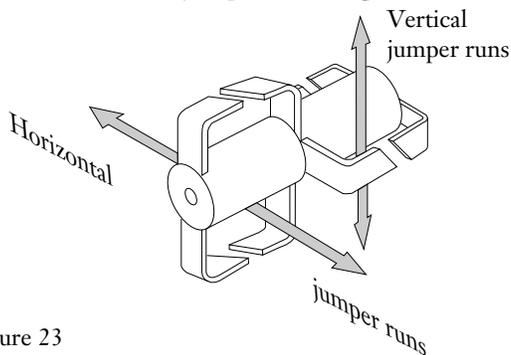

Figure 23
- If the hardware has split guides, use the rear set of guides to hold vertical jumper runs and the front set to hold horizontal jumper runs (Figure 23).